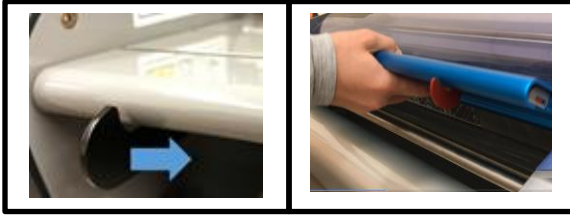

Figure 12
Step 1: Lift Safety Shield and **remove the feed table** by **pressing inwards on the table latches and lifting up and out.** (Fig. 12)